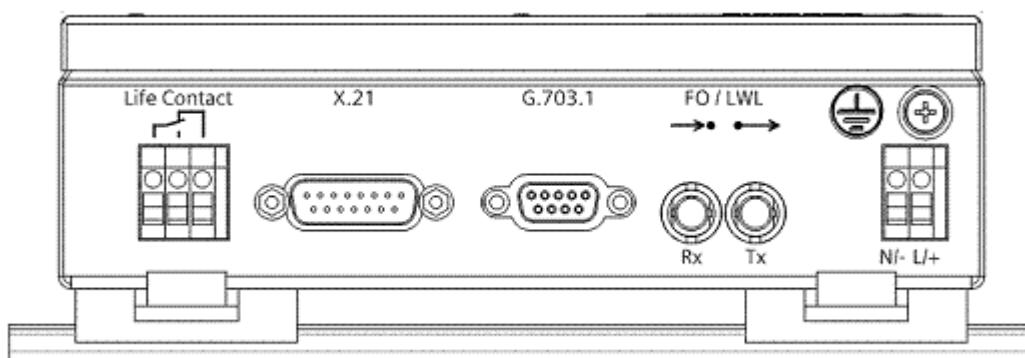
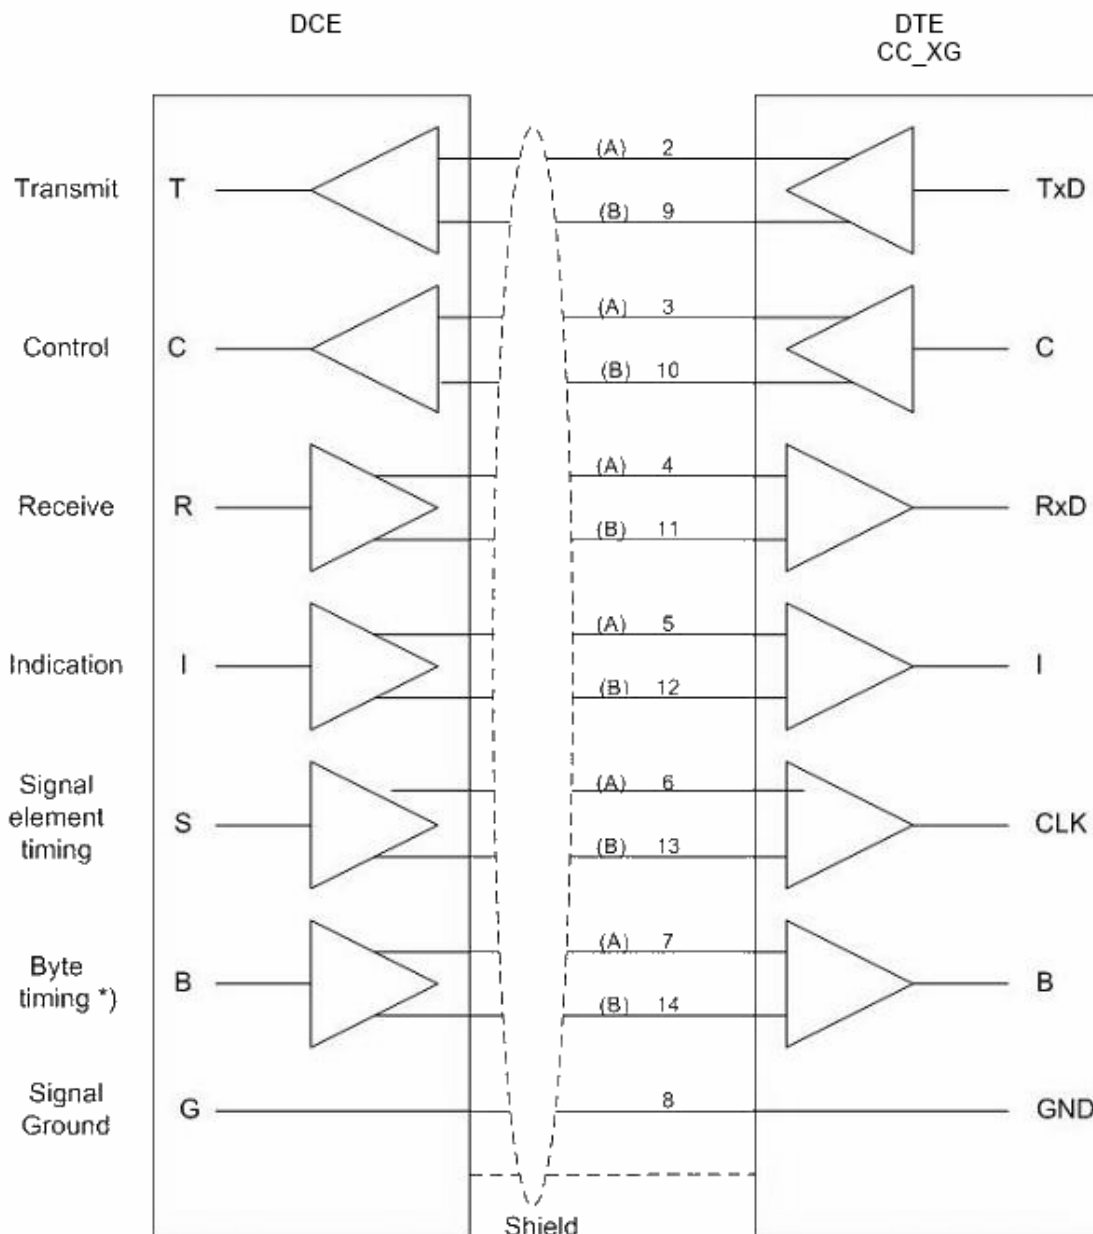
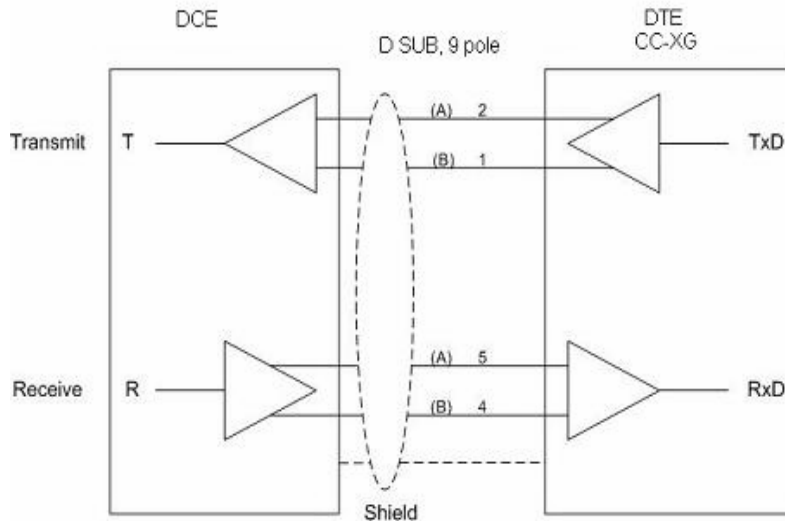

Figure 3 Interfaces and connections
Figure 6 Pin assignment of the 15-pole data cable
Figure 8 Pin assignment of the 4-pole data cable
The following interfaces and connections are located on the device side (Figure 3):
The 15-strand data line must be twisted and screened. The pin assignment can be seen in Figure 6. The byte-timing is not supported. Between the communication converter and the X.21 interface of the communication device, it is recommended to have short connections, in order to avoid electrical interferences. The communication converter should be installed near to the communication device (DCE).
The 4-strand data line should be twisted and screened. The pin assignment can be seen in Figure 8. Between the communication converter and the G.703.1 interface of the communication device, it is recommended to have short connections, in order to avoid electrical interferences. The communication converter should be installed near to the communication device (DCE).
- Connect the socket with the cable to the D SUB connector plug X.21 of the communication converter. Figure 3 shows the location of the interface connector plug. Figure 6 shows the pin assignment at the DTE terminal of the communication converter.
- Connect the plug with the cable to the D SUB socket G.703.1 of the communication converter. Figure 3 shows the location of the interface socket. Figure 8 shows the pin assignment at the DEE terminal of the communication converter.